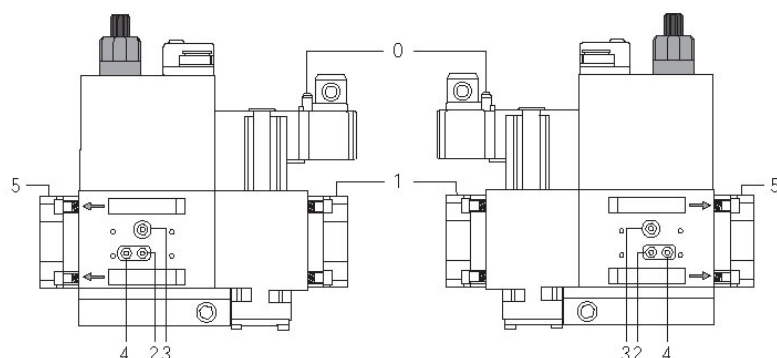
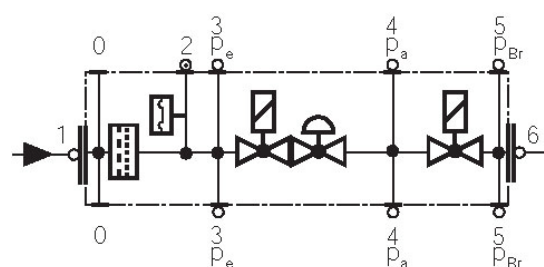

Fig. 25
Fig. 26
- Change the filter if the pressure difference between pressure connection 1 and 2 (Fig. 25-Fig. 26) $\Delta p > 10$ mbar.
- Change the filter if the pressure difference between pressure connection 1 and 2 (Fig. 25-Fig. 26) is twice as high compared to the last check.